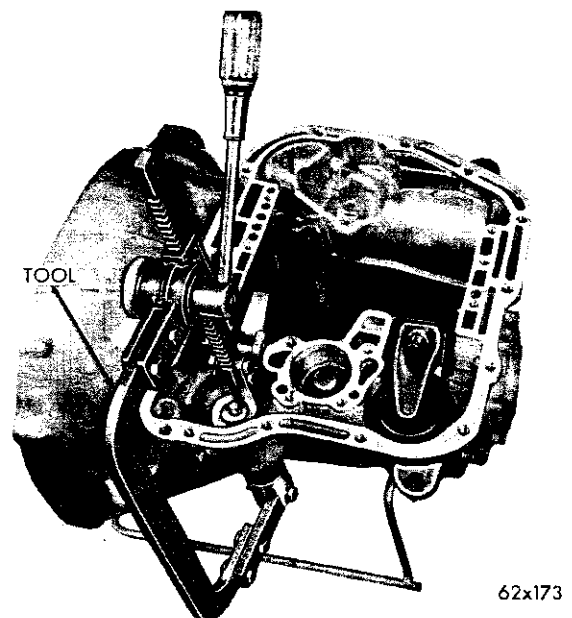

Fig. 52—Compressing Kickdown Servo Spring
- (1) Compress the kickdown servo spring by using "Engine Valve Spring Compressor Tool C-3422", then remove the snap ring (Fig. 52).